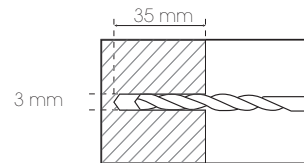

Fig.10
- If installing into a sound timber structure, use a 3mm drill bit to drill 4 holes 35mm deep. Refer to (Fig. 10)